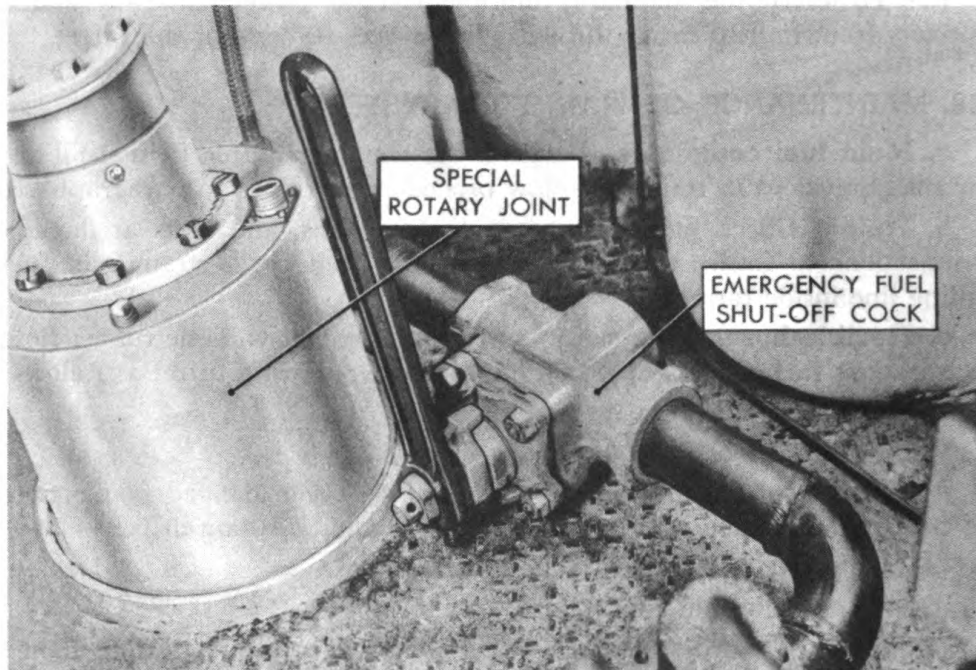

Figure 39—Special rotary joint between hull and turret (combination electrical collector ring and fluid joint).
f. Special rotary joint (figs. 39 and 40). The purpose of the special rotary joint is two-fold:
(1) To carry main fuel from the hull main fuel containers to the basket main fuel container through 360-degrees traverse of the turret.
a. General. The special rotary joint (combination electrical collector ring and fluid joint) (figs. 39 and 40) carries main fuel from the hull fuel containers to the basket fuel container through 360-degree turret traverse and also carries the standard multiple electric power and interphone circuits from hull to basket through 360-degree turret traverse.
- (1) *Fuel channel.* The main fuel channel of the rotary joint consists of a vertical central tube attached at the bottom to the left hull main fuel container flexible outlet pipe, and at the top to the basket main fuel container inlet.
- (2) *Ball bearings.* The top connection is separated from the central tube, guided around and held to it by ball bearings contained in a cylindrical grease (bearing) housing.
- (3) *"O" ring.* A single "O" rubber sealing ring prevents leakage of main fuel from the joint into the housing.